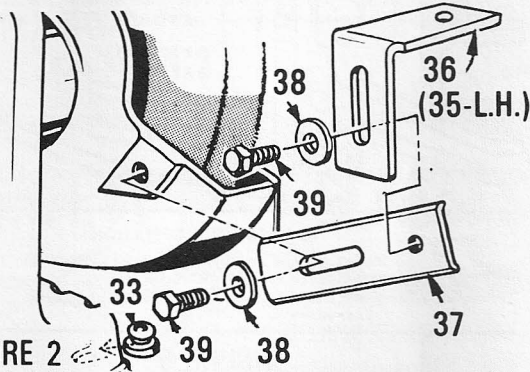

FIGURE 2
4. Attach tool rest arms (37) to inner side of wheel guards (9 & 21) using flat washers (38) and bolts — $\frac{5}{16}$ -18 x $\frac{3}{4}$ (39) as shown. Attach tool rests (35 & 36) to tool rest arms using bolts (39) and washers (38). Adjust as desired and tighten. See figure 2.
5. Insert 4 base bushings (33) in slots provided at each corner of base as shown in illustration. *Thick section of bushing extends below grinder base.* See figure 2.